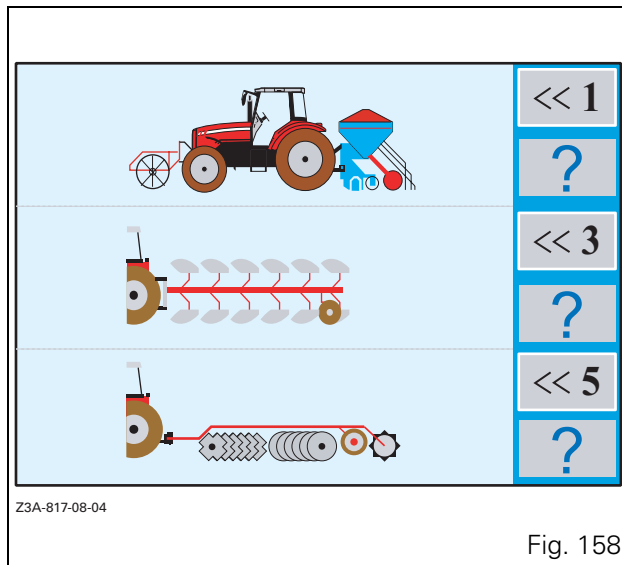
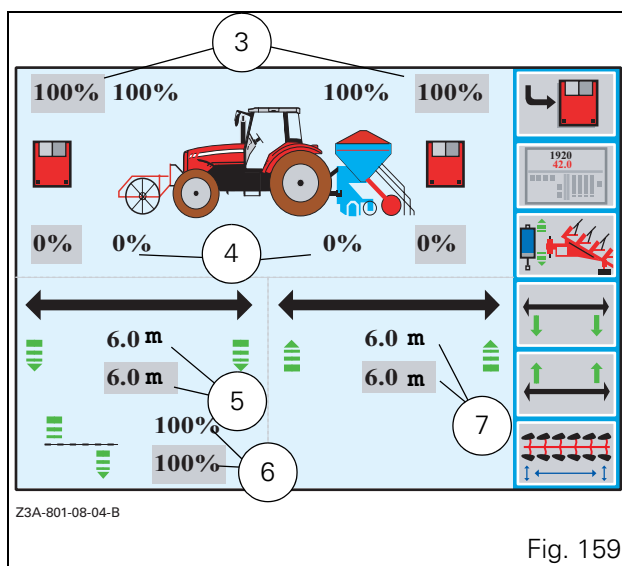
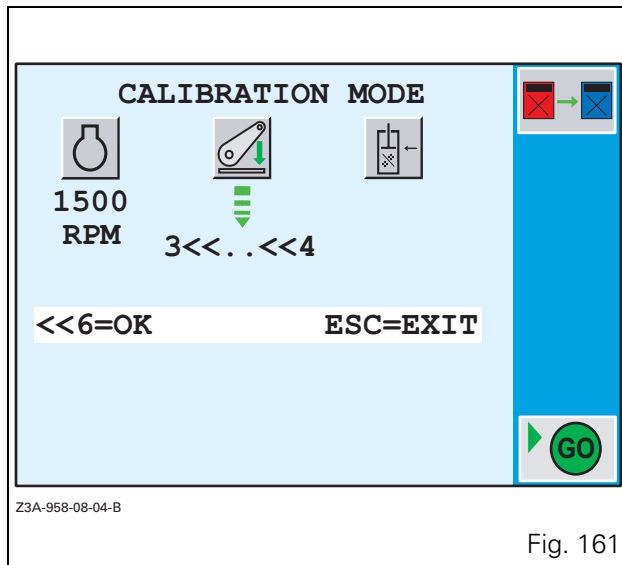

Fig. 158
Fig. 159
Fig. 161
- rotate the encoder (1) to the **DUAL CTRL** application.
- press the encoder when the active function is highlighted by red text and a red rectangle around the icon (the window Fig. 158 is displayed).
- to exit an application, press the **ESC** key (2).
When the window (Fig. 158) is open, press the key «1». The window (Fig. 159) is displayed.
To carry out calibration, press the key \ll_6 when the window (Fig. 159) is open. The window (Fig. 161) is displayed.
During calibration, the front linkage is lifted and lowered several times. Then, as soon as calibration is complete, the window (Fig. 161) is displayed again.